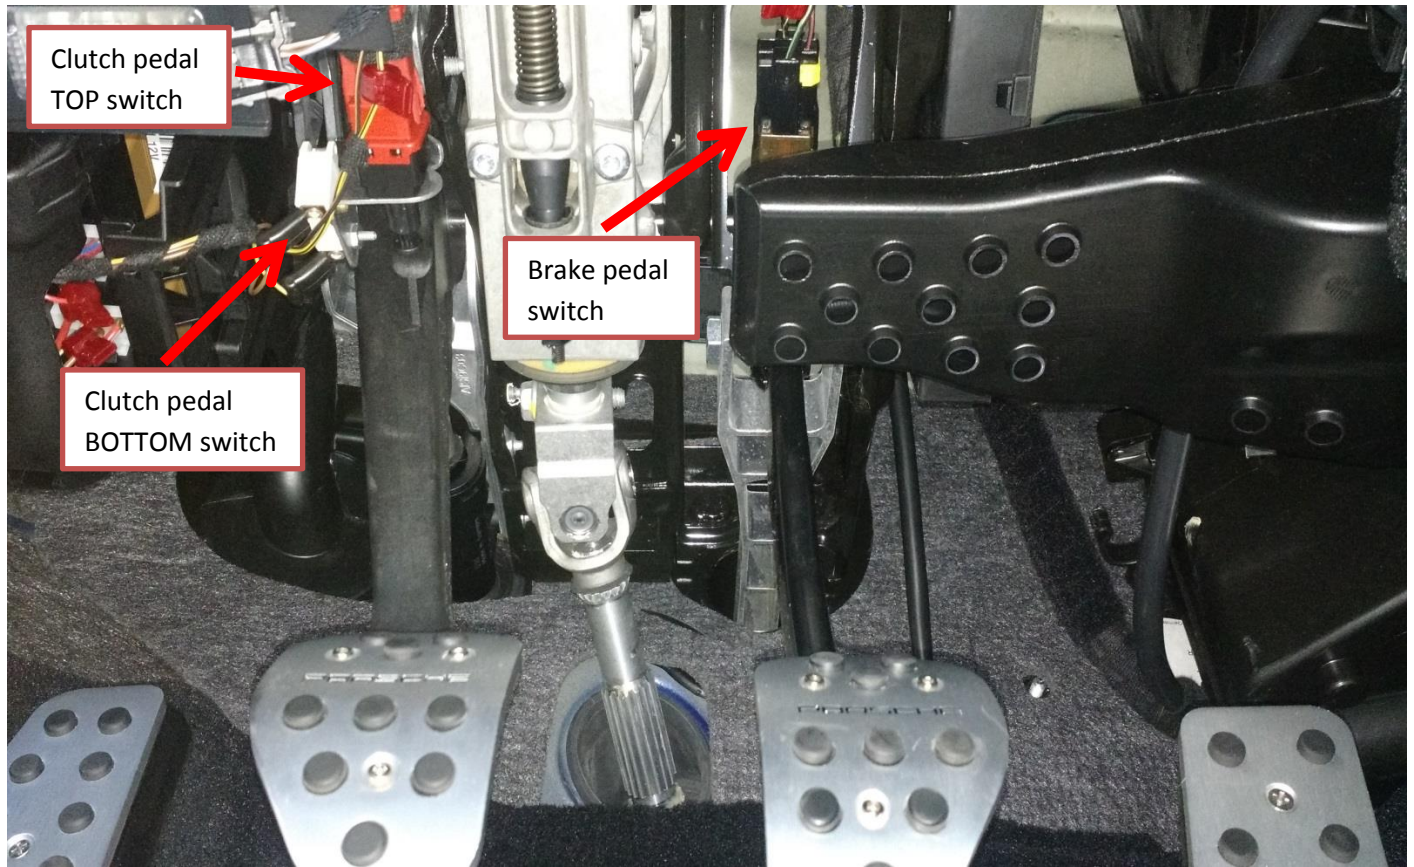

Figure 1a (General overview of the Sensors under the driver's dash)
1. Locate all the specified switches/sensors shown below on **Figure 1a & 1b**.